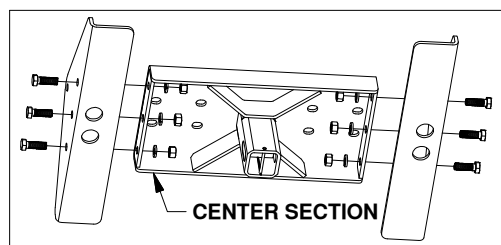
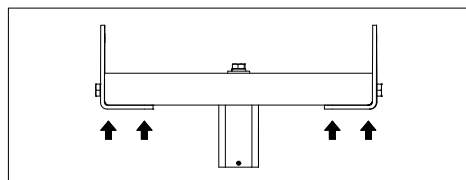

FIGURE A1: Underside view of center section and legs.
FIGURE A2: Front view of center section and legs.
1. Locate six 1/2" cap screws, 1/2" split lock washers and, 1/2" nuts. Pass three cap screws through the outside of each base leg and hand tighten each cap screw with a split lock washer and nut as shown in figure A1. While securely holding each leg against the bottom of the center section, torque each bolt to 110 ft-lbs, see figure A2.